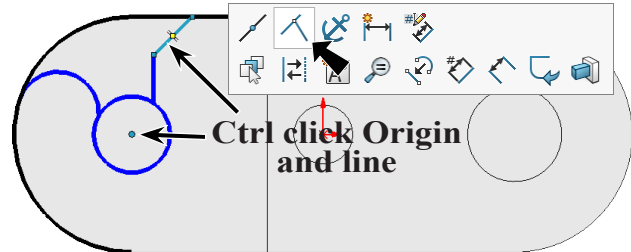

Fig. 32
Step 12. **Ctrl click centerpoint of circle and angled line to select both.** Release Ctrl key and click **Make Coincident**  on the context toolbar, **Fig. 32.**